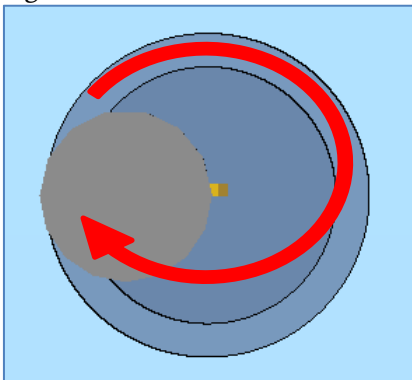

Fig. 6-3
- block N360 the mill executes a complete turn and translates an entire pass (**Fig. 6-3**),